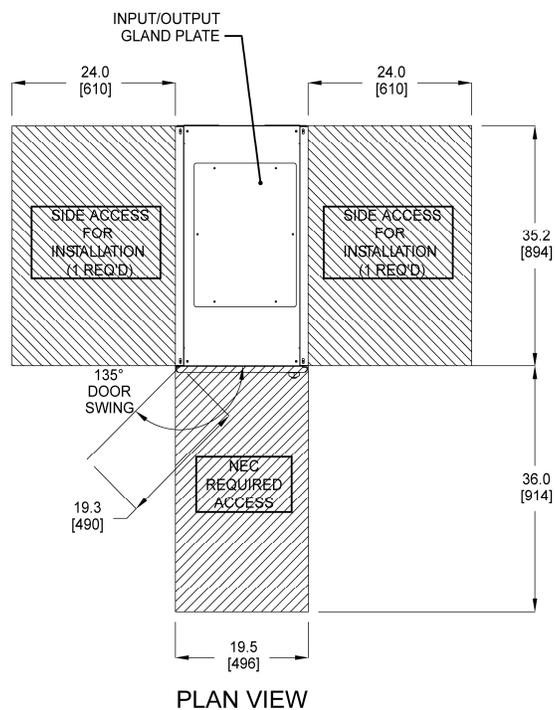

Figure 2-2. Clearances
- Have front accessibility of 36 in. (914 mm). Only front access is necessary for service and maintenance. Refer to Figure 2-2 for minimum clearances.
Figure 3-1 shows the location of the anchoring holes. Also note in the figure, the unit has pre-cut openings for input or output cables. Figure 2-2. Clearances shows to the opening on the top of the unit for cables.